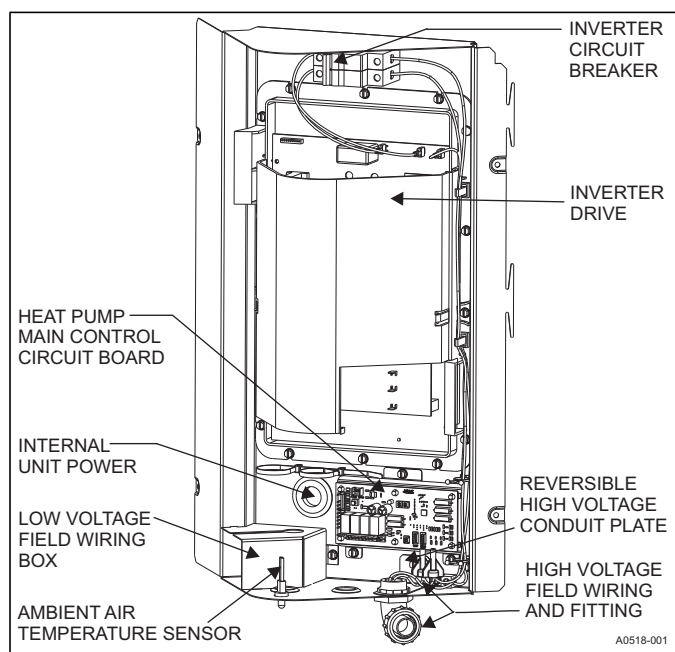
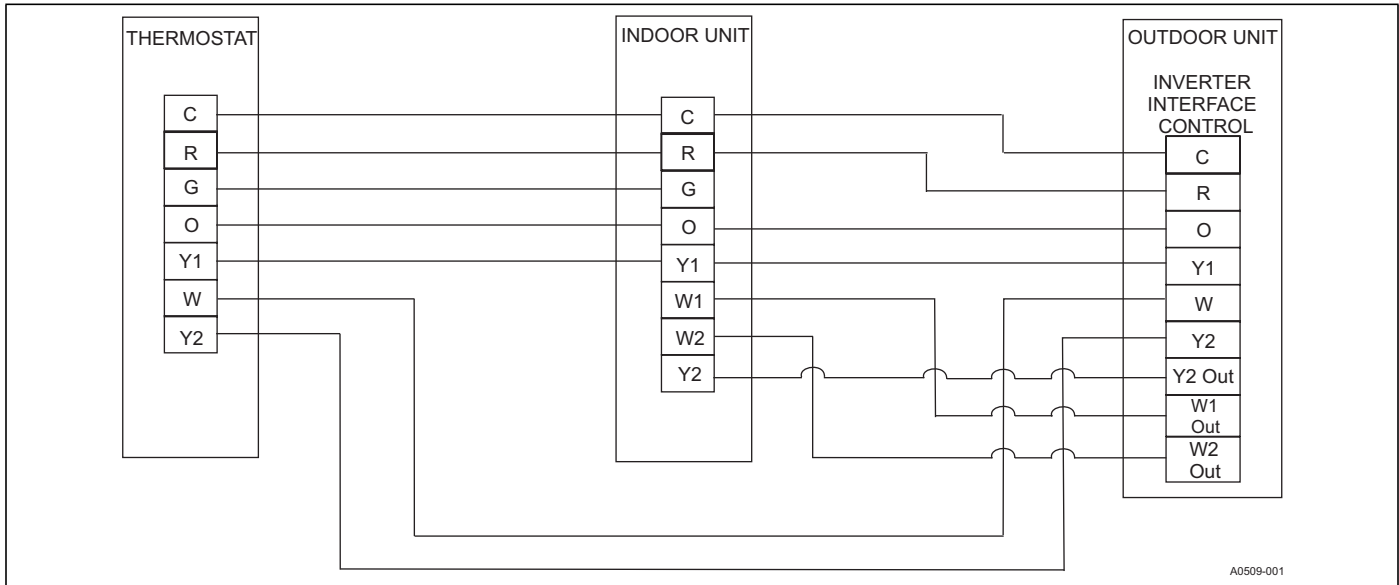

FIGURE 10: Outdoor Unit Control Box (Single Phase)
FIGURE 11: Typical Field Wiring (Air Handler / Electrical Heat) (Single-Phase)
1. Route low voltage wiring into bottom of control box as shown in Figure 10. Make low voltage wiring connections inside the low voltage box per Figure 11.